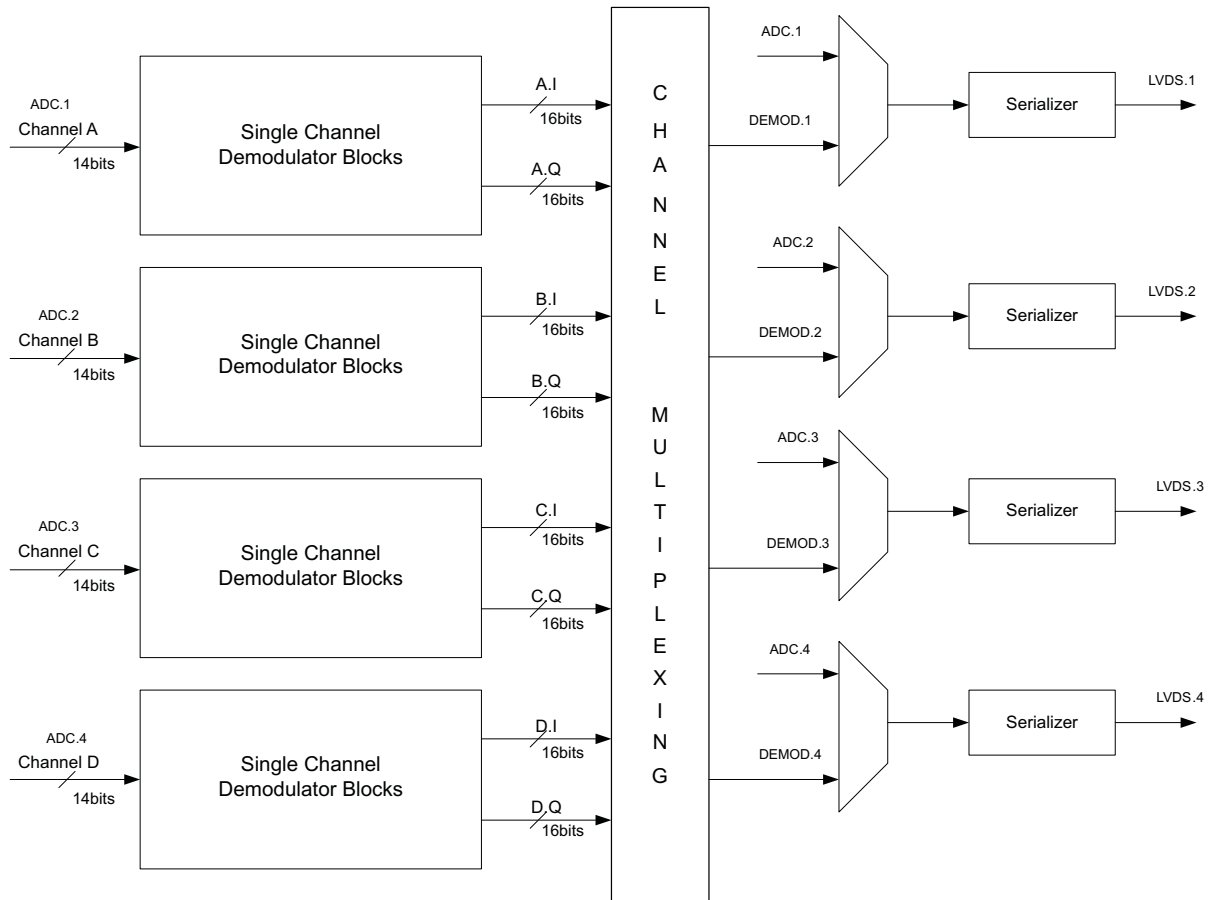

图 76. Channel Multiplexing
4. In 图 76, channel multiplexing is implemented for flexible data routing: